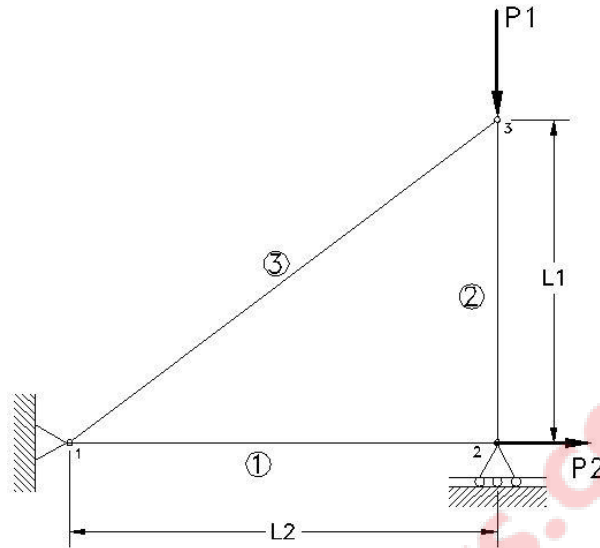

Figure 3
- (c) A three element truss as shown in figure 3 below has modulus of elasticity $E = 200 \text{ GPa}$. The area of each element is 50 mm^2 . The length $L_1 = 1000 \text{ mm}$ and $L_2 = 750 \text{ mm}$. The loads $P_1 = 50 \text{ kN}$ and $P_2 = 40 \text{ kN}$ and applied as shown. Determine the nodal displacements. **07**